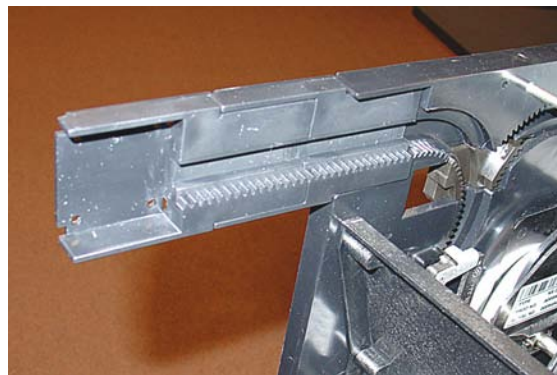

Figure 8. Spacers installed.
- Snap the two (2) **Left** spacers together. Install/snap on the dispenser as shown in Figure 8. The “teeth” will be on the bottom side. Perform the same for the **Right** side.